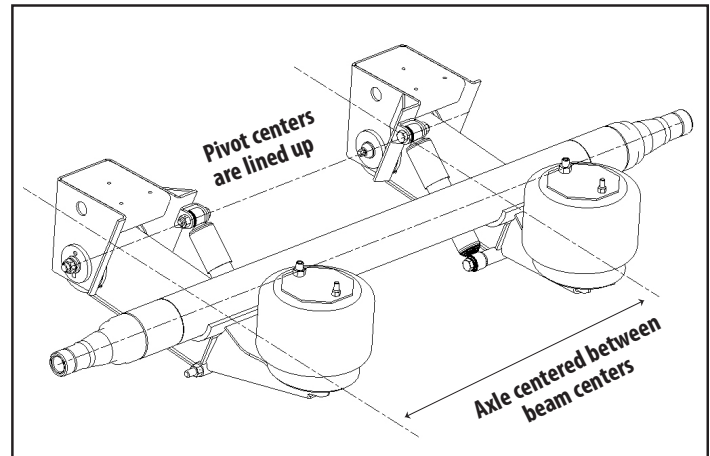

Figure 4. Axle should be centered between beams with beams and axle perpendicular to each other. Refer to the engineering drawing for measurements.
1. Center the axle assembly on the beam centers (Figure 4).